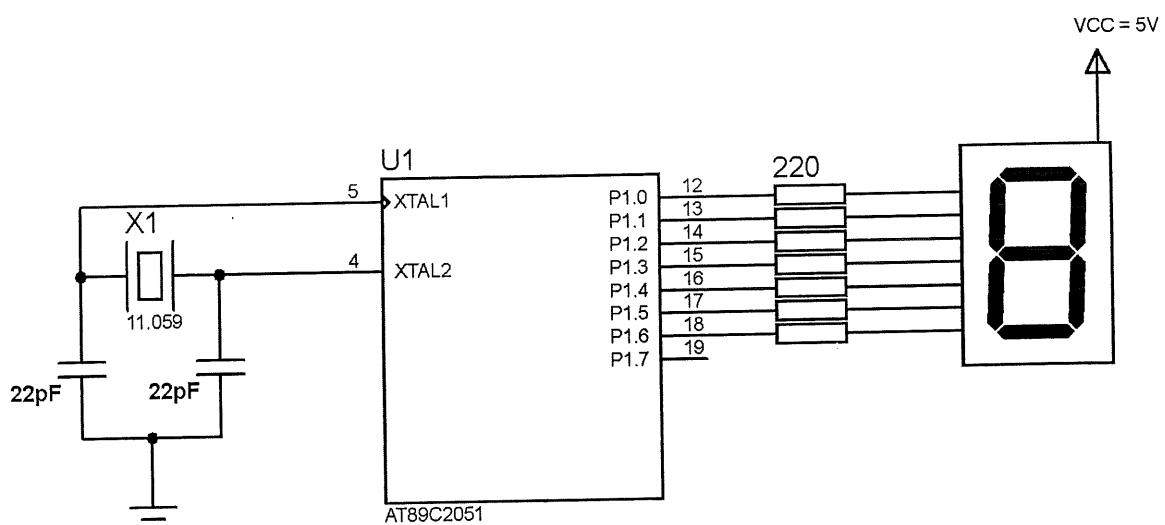

Figure 1
d) Refer to the circuit in Figure 1, answer the following questions:
i. State TWO (2) types of 7 segment display unit. (2 marks)